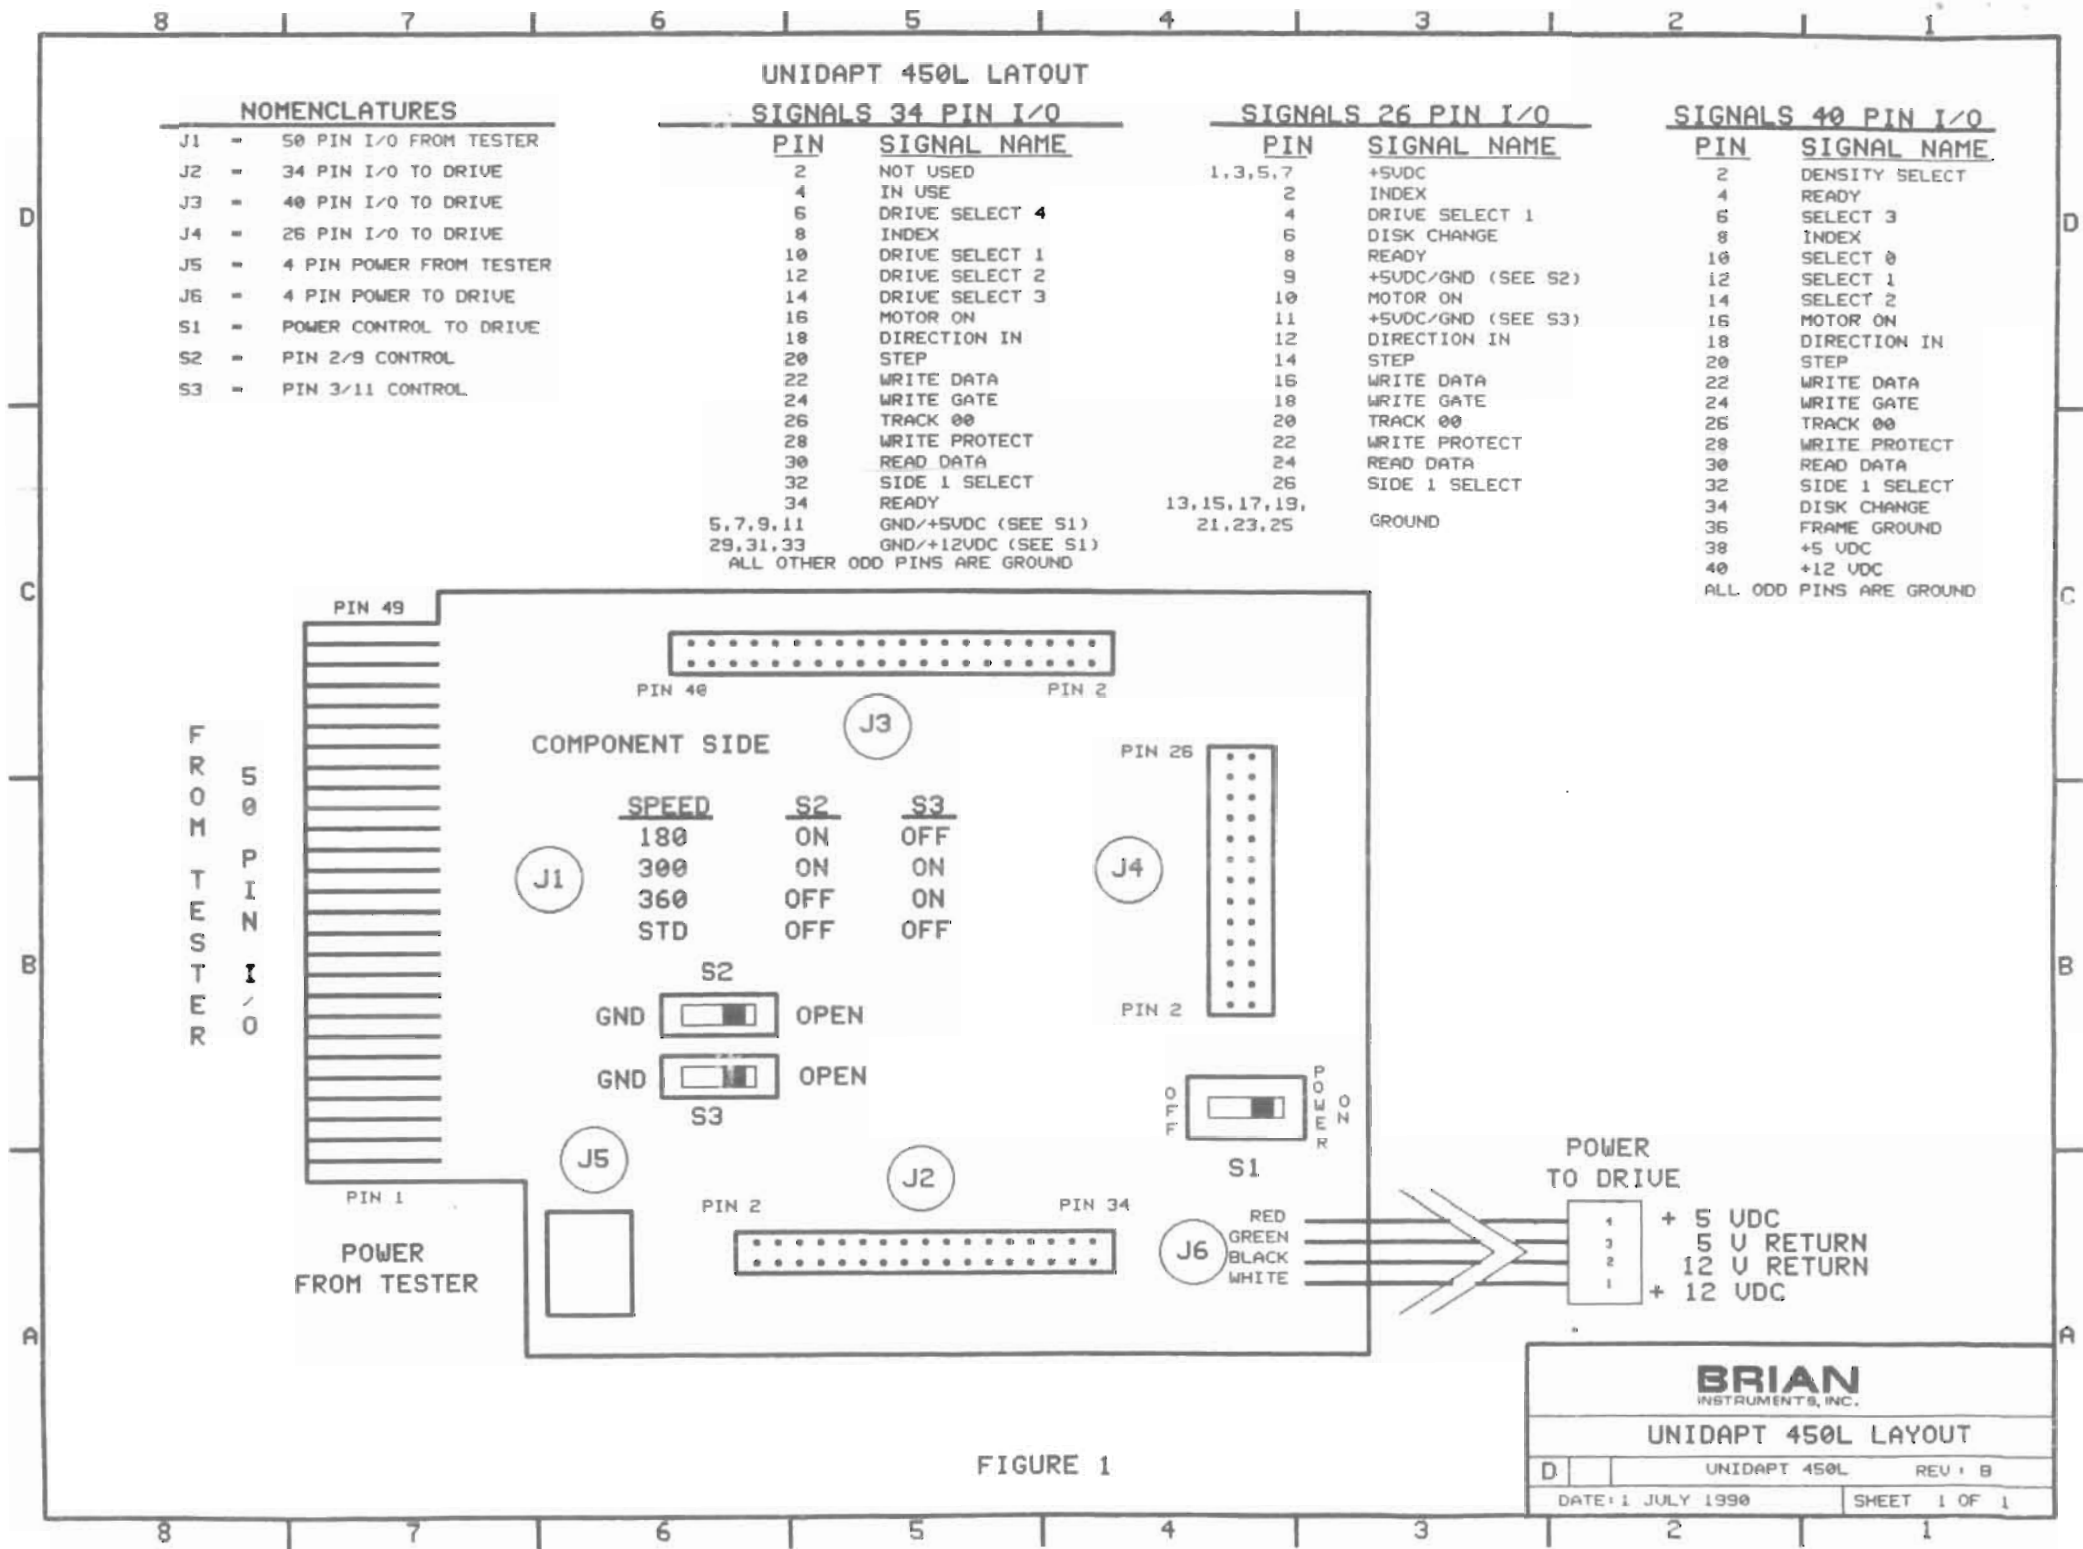

FIGURE 1
- S3 PIN 3/11 CONTROL - This switch is used to change the state of Pin 3 of the 34 Pin interface and Pin 11 of the 26 Pin interface. In conjunction with S2, this switch is used to control the spindle motor speed on tri-speed drives (180,300,360 RPM) that have a 34 Pin interface (refer to Figure 1 for speed control settings). Some 26 Pin interfaces use this Pin for density control (see the attached page for switch settings). When in the OPEN position, these Pins will be held HIGH via the drive interface pullup resistor. When in the GND position, these Pins will be held to Ground.